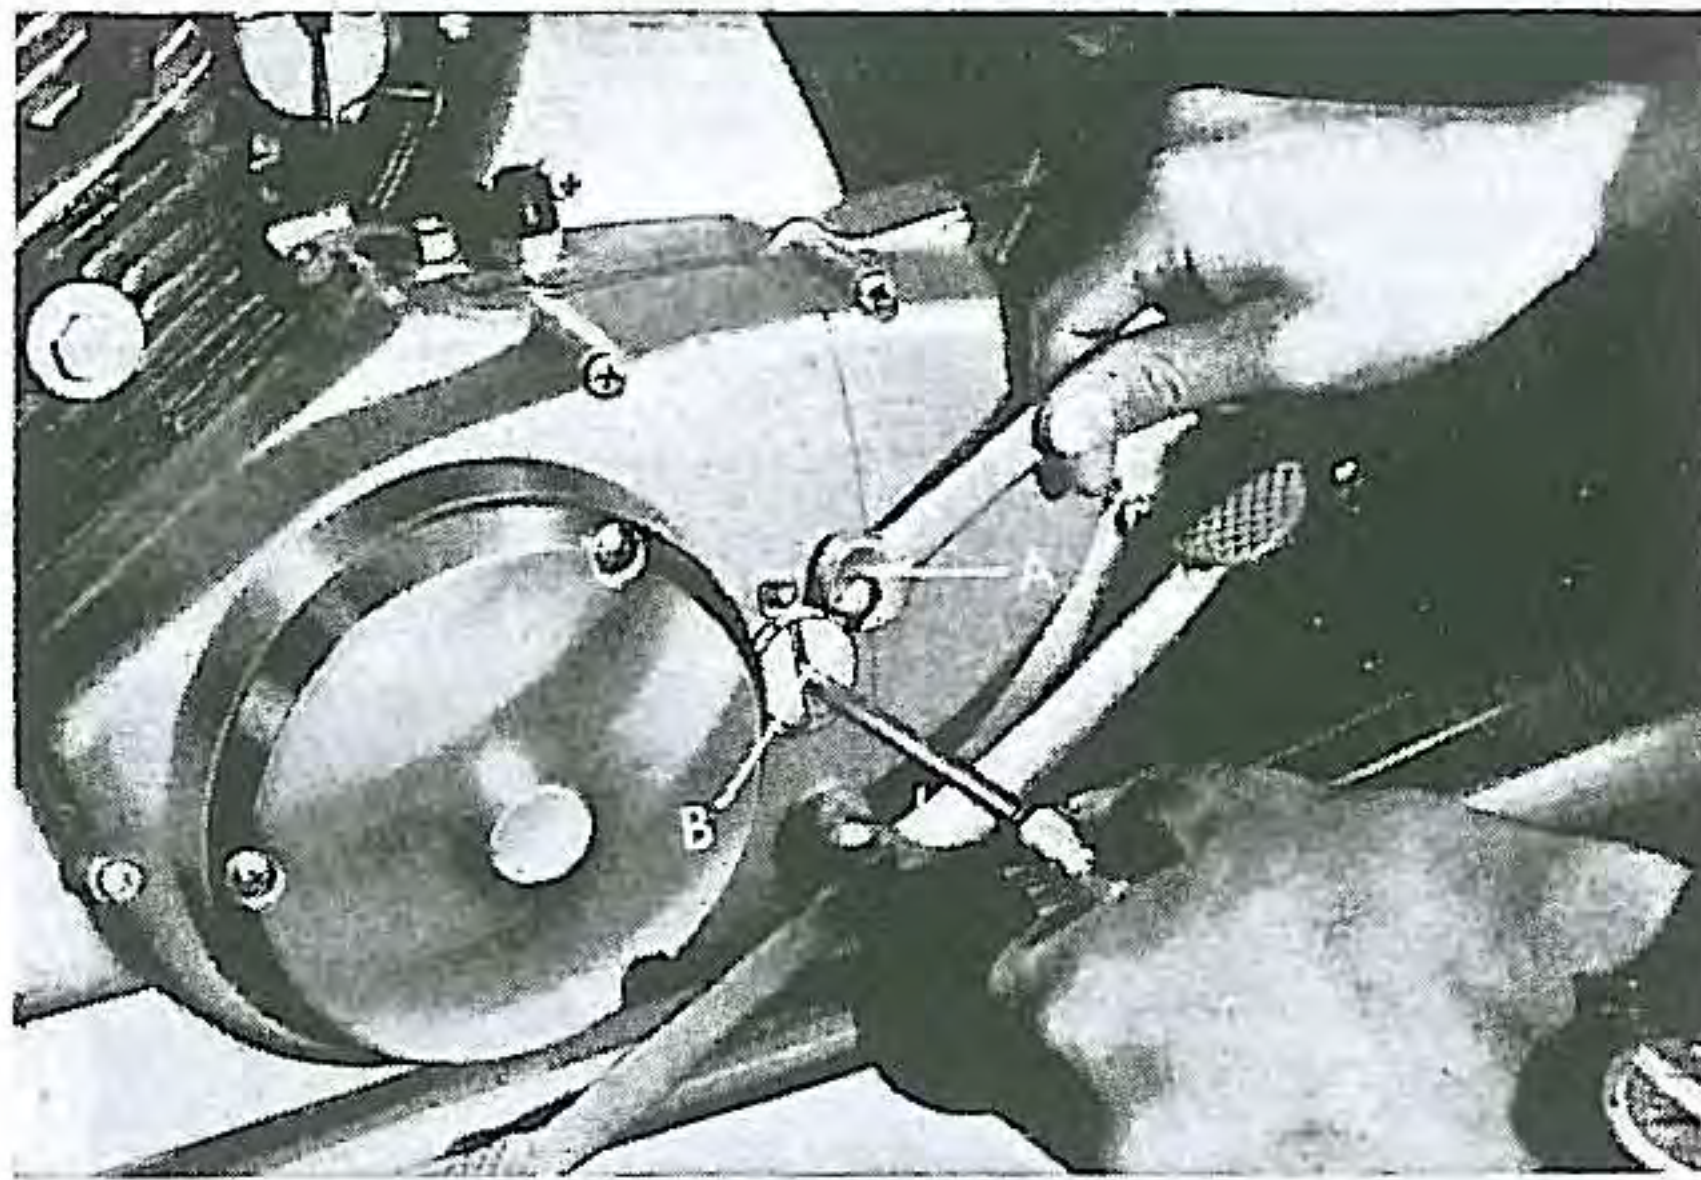

Fig. IV-5. Adjusting clutch
- (1) Loosen bolt A and adjust the clutch by turning the clutch adjuster. The clutch may slip when clutch adjuster B is tightened excessively and may not disengage easily when the clutch adjuster is too loose. (Fig. IV-5)
- (2) Depress the kick starter and check the clutch for slip and engagement with the clutch lever in and out.
- (3) There should be 10-15 mm of play in the clutch lever.